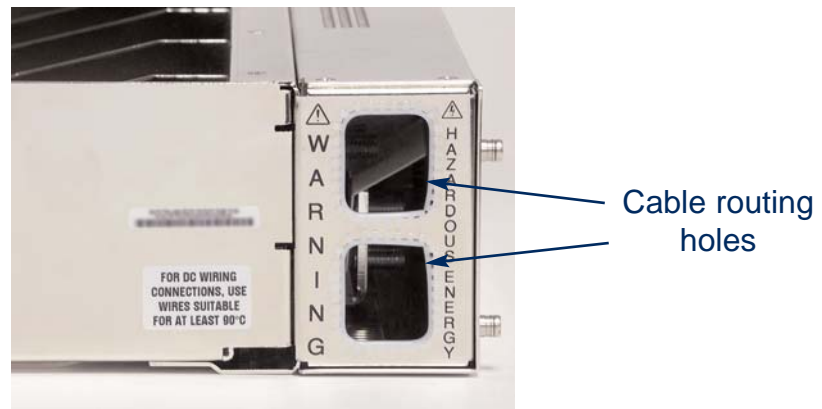
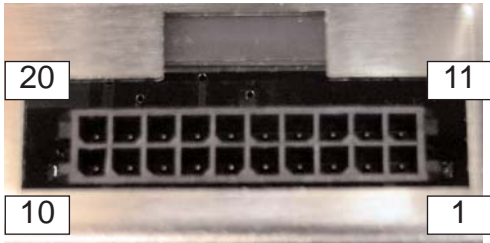

Figure 11 - Cable routing holes
Figure 12 - Alarm and signal connector on shelf
Route DC cables out the side of the rack through the cable routing holes seen in Figure 11.
Access to alarms and control signals is accomplished via a rear mounted connector (p/n 43045-2019, Molex) as shown in Figure 12. Table 12 provides a pin functional description.
- The pin out of the alarm connector on the rack is a 180° difference from a standard Molex connector. See Figure 11 & Figure 12.